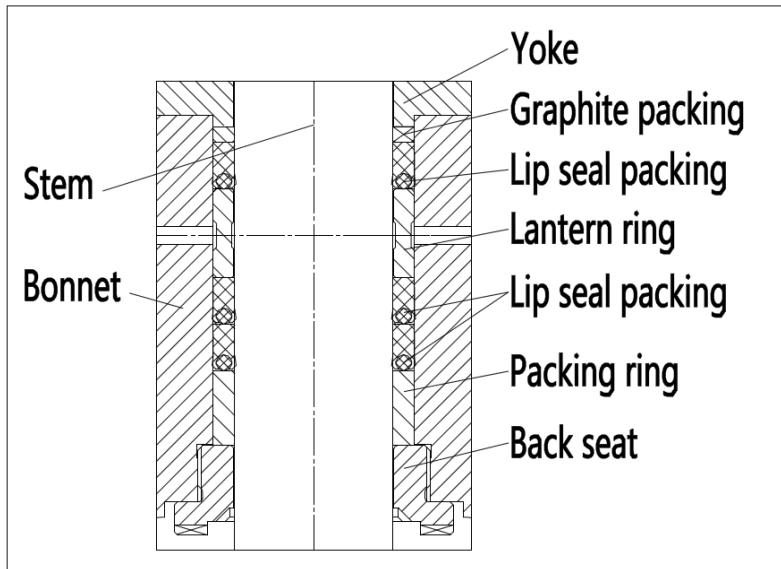

Figure 4 - Lip Seal Packing
6.3.1 For valves size up to 16 inch, stem sealing system is as Figure 4